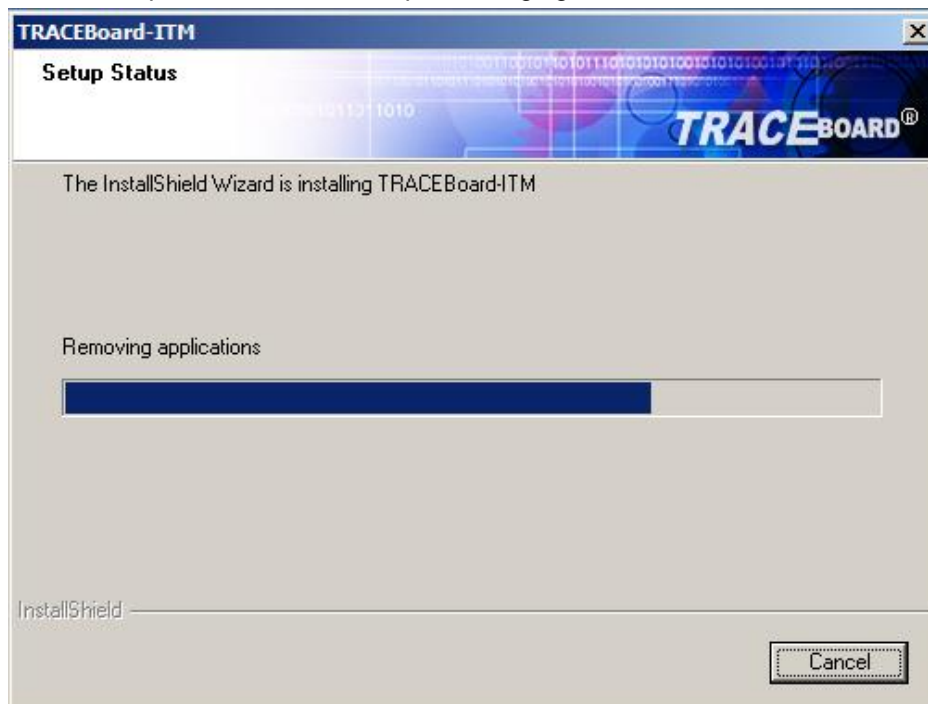

Fig 2.1.5
6. Waiting a while for complete installation, see processing fig2.1.5